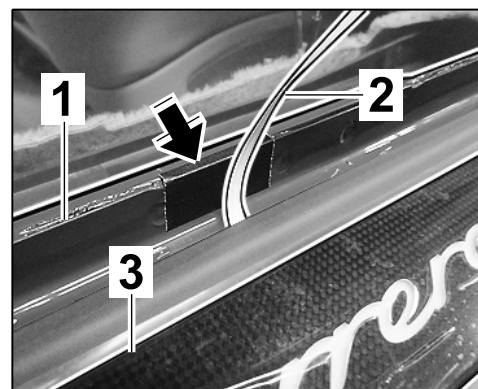

Figure 17
- 3.3 To protect the flat conductor path on the body flange ⇒ *Figure 17-1-*, stick wrapping tape/insulating tape ⇒ *Figure 17-arrow-* around the body flange.